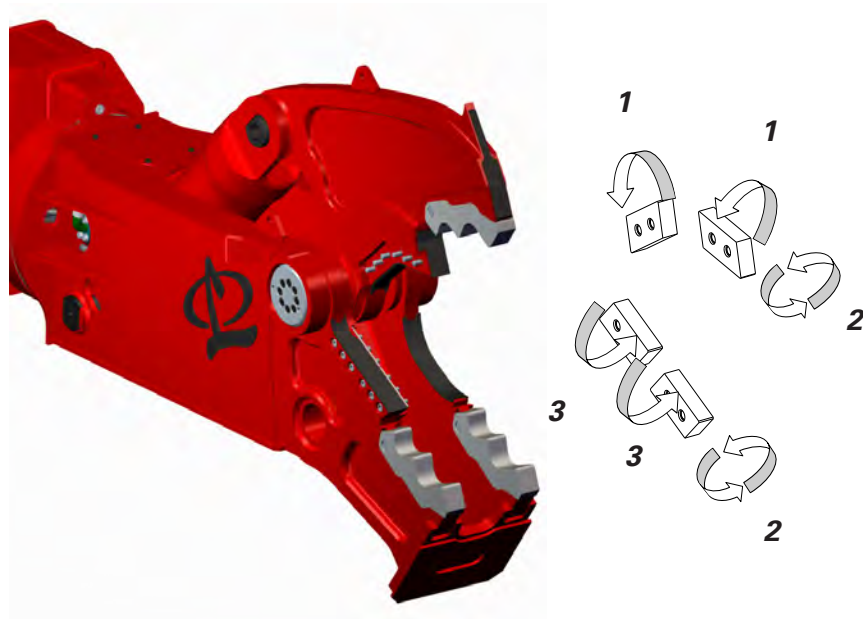

FIGURE 5-3
4. Reinstall the blade. See Figure 5-3. The blade should be turned end for end and reinstalled in the same blade seat. Torque the blade bolts according to the Dry Bolt Torque charts in this chapter.